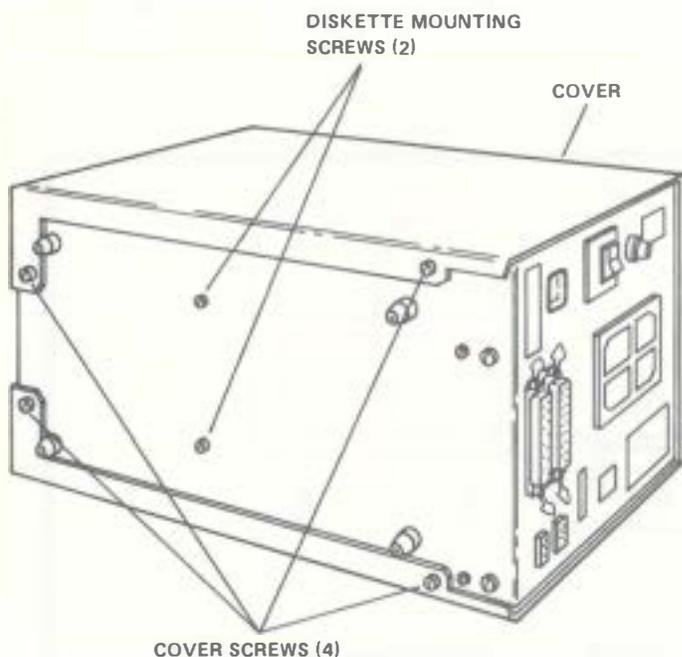

Figure 5-26. 8" Diskette Drive Assembly (Bottom View)
- Locate and remove the mounting screw securing the diskette drive to the housing. See Figure 5-26.
3. Replace the mounting screw that secures that diskette drive to the housing. See Figure 5-26.
7. Place the diskette drive assembly on its side again and replace the four cover mounting screws on the bottom. See Figure 5-26.